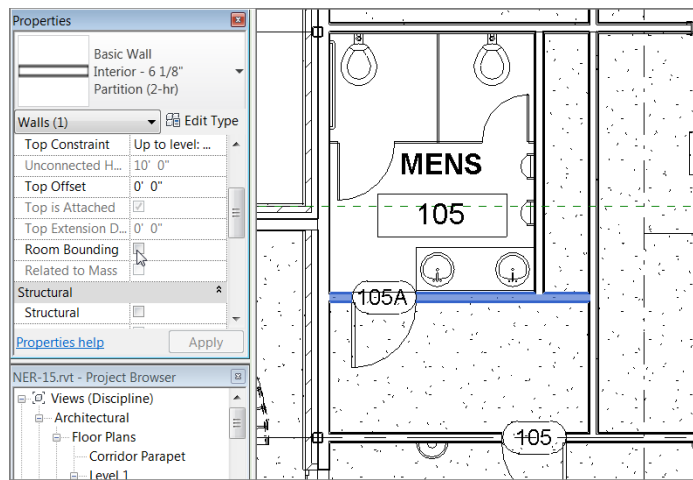

FIGURE 15.11: Selecting the partition within the men's lavatory
2. Select the wall that divides the men's toilet area from the men's lavatory entry area, as shown in Figure 15.11.
4. Deselect Room Bounding (see Figure 15.11).